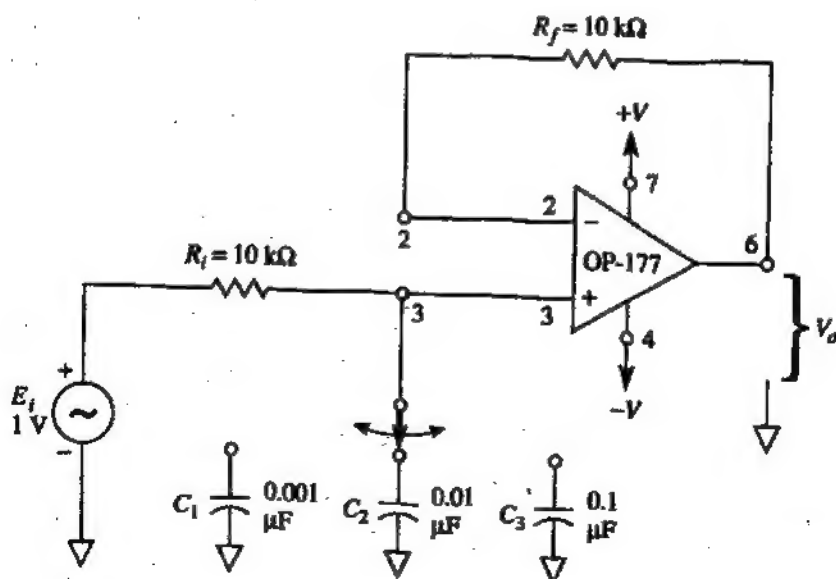

FIGURE P11-6
- 11-6. Calculate the cutoff frequency for each value of C in Fig. P11-6.